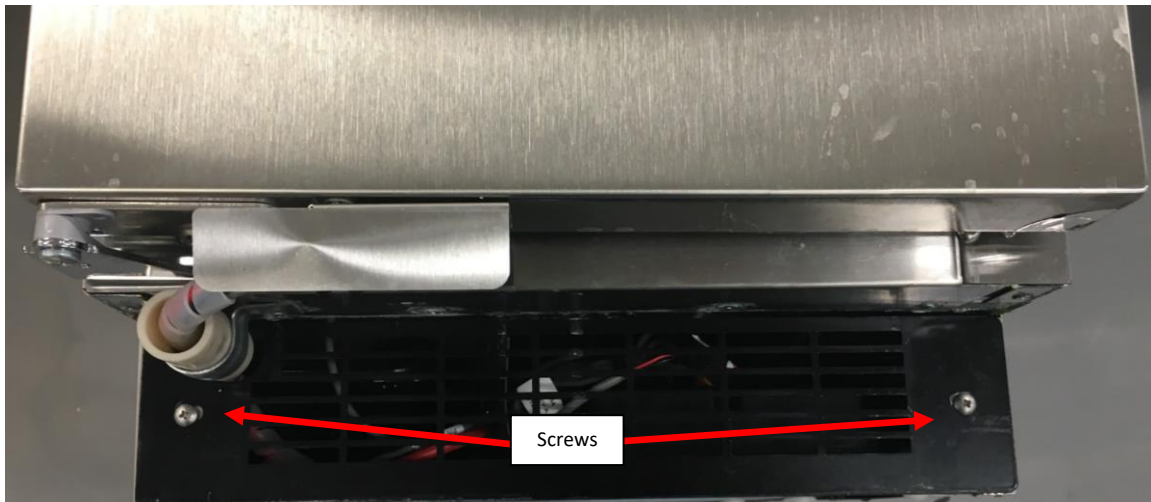

Figure K1: Front Grill installed with screws.
1. Remove the front Access cover by unscrewing the two screws holding it on place. See Figure K1.